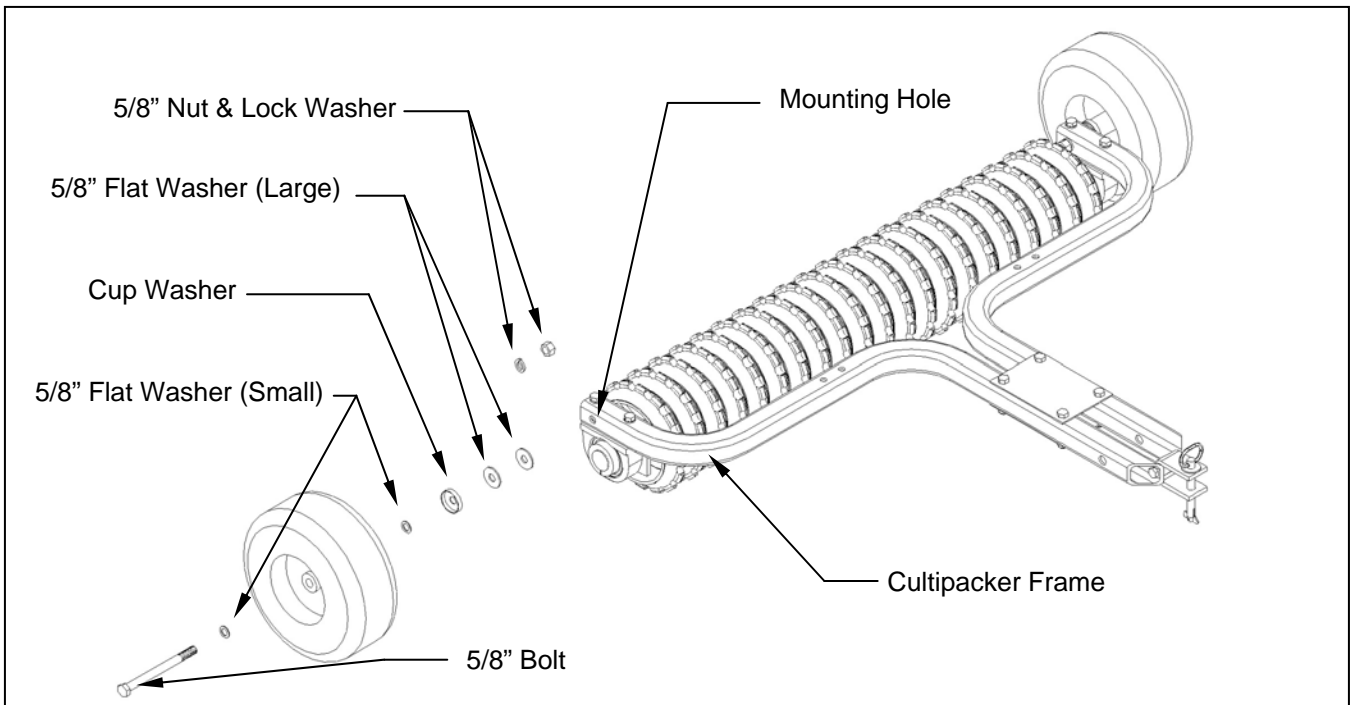

Figure 1. – Wheel Kit Assembly
**A. ASSEMBLY OF OPTIONAL WHEEL KIT (See Figure 1)**
1. Remove the 5/8" nut and lock washer from each wheel assembly. All other hardware should stay on the wheel assembly in the order that is shown in Figure 1.